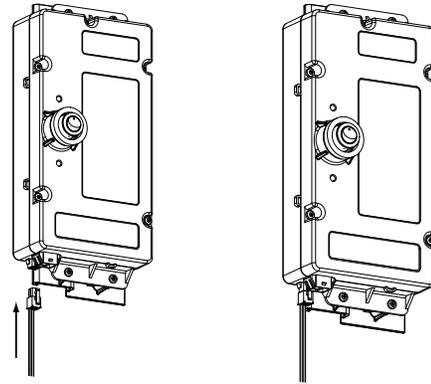
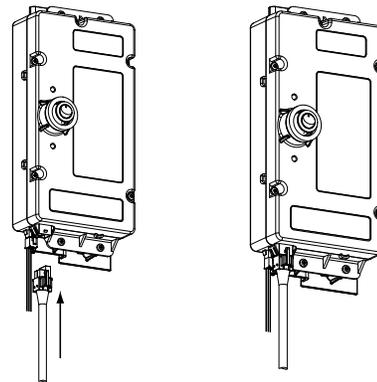

Fig. 7 - Airflow Sensor Cable Installed
Fig. 8 - Power Cord Installed
- c. Connect the power cord and the airflow sensor cord to the power supply connector and the airflow sensor connector (see Fig. 7 and Fig. 8).